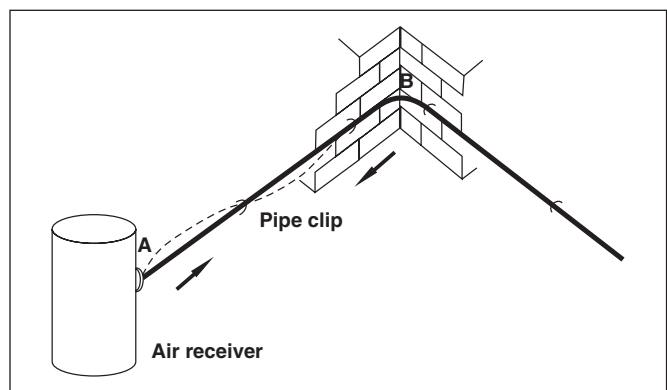

Fig. 2
**Pipes constrained at both ends (Fig. 2)**